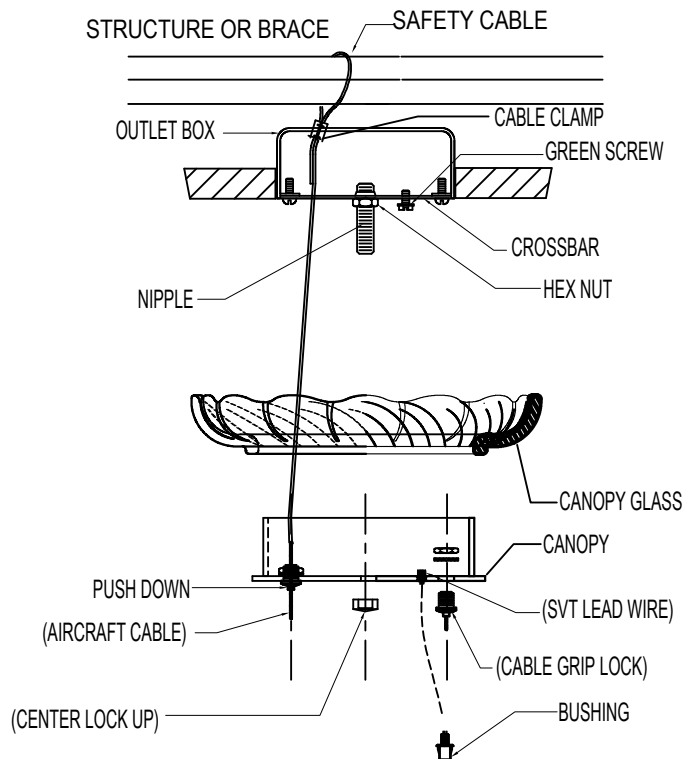

FIGURE-1
1. Insert the aircraft cable into the cable grip post of the canopy. Push the tab down on the cable grip and feed the aircraft cable. Repeat this step until you have insert all aircraft cable. (Refer Figure-1)
2. Insert the SVT wire to bushing. (Refer Figure-1)
5. Attach the mounting bracket to the outlet box using the mounting screws. Attach the safety cable to the building structure or brace. (Refer Figure-1).